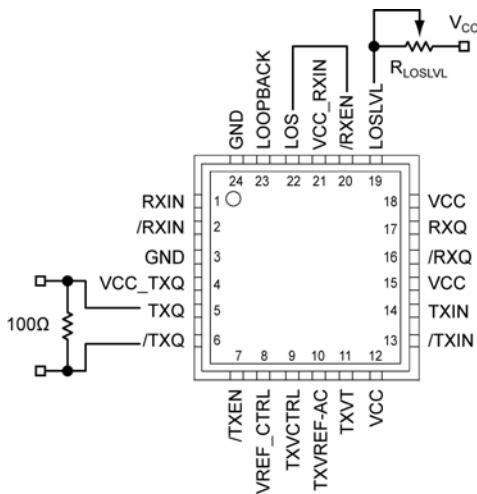

Figure 2b. Alternative Implementation
- Sensitivity of the LOS signal can be programmed using the  $LOSLVL$  input by using a variable resistor connected to  $V_{CC}$  with a wiper connected to  $LOSLVL$ , as shown in Figure 2b